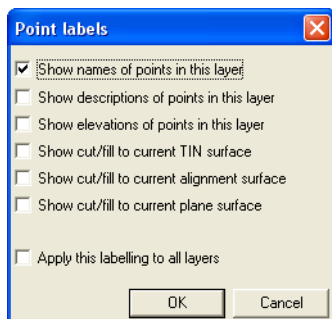

Figure 2-24. Select Point Labeling Parameters for Layer
1. On the **View layers** dialog box (Figure 2-24 on page 2-20), click the desired layer, then press **Delete**.
2. On the **Point labels** dialog box (Figure 2-24), check the desired label settings for the layer(s) and press **OK**.